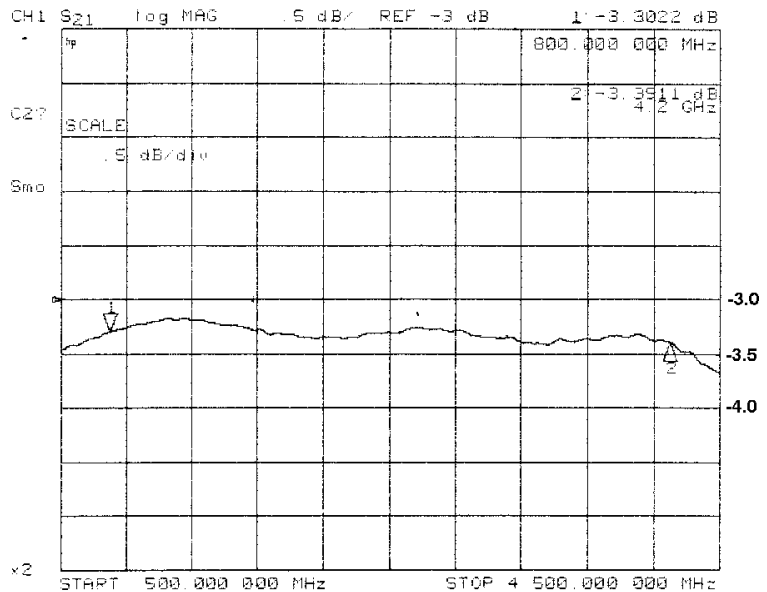

Figure 4-5. Typical Two-Way Splitter Insertion Loss
5. A typical Two-Way Splitter Insertion Loss is shown in Figure 4-5. The unused port must be terminated when checking the insertion loss.